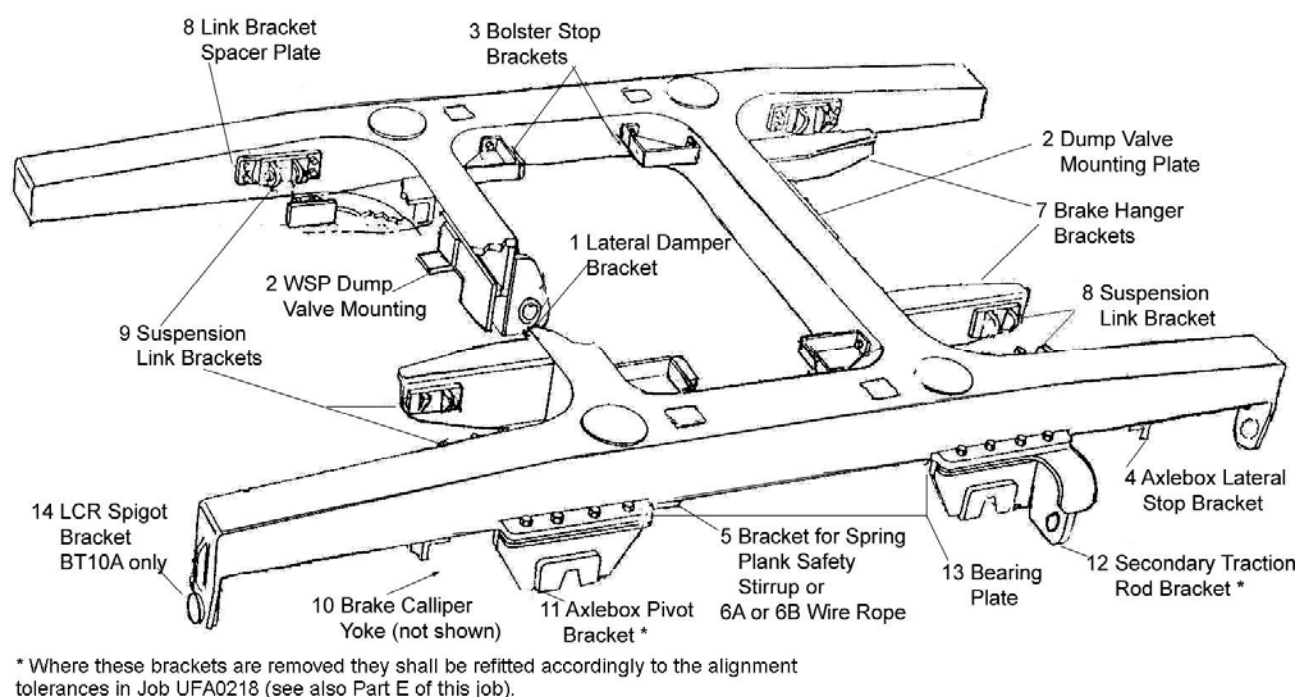

Figure 10: Brackets on BT10 Bogie Frame
- G2. Examine in situ brackets shown on Figure 10 for distortion and damage.